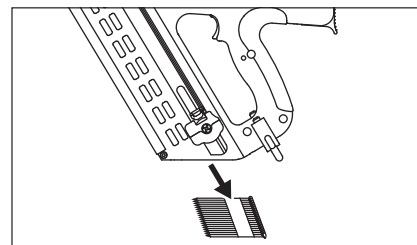

Figure 27
2. Pull the fastener pusher to the bottom of the magazine and remove all remaining fasteners from the magazine (see Figure 27).